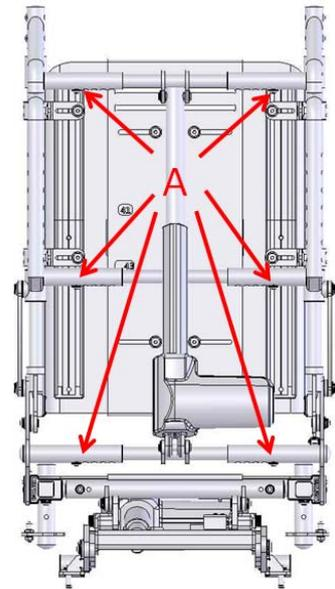

Figure 5-86
5.3.5.17 Befoe adjusting the backsupport width, remove the screws A. (Figure 5-86)